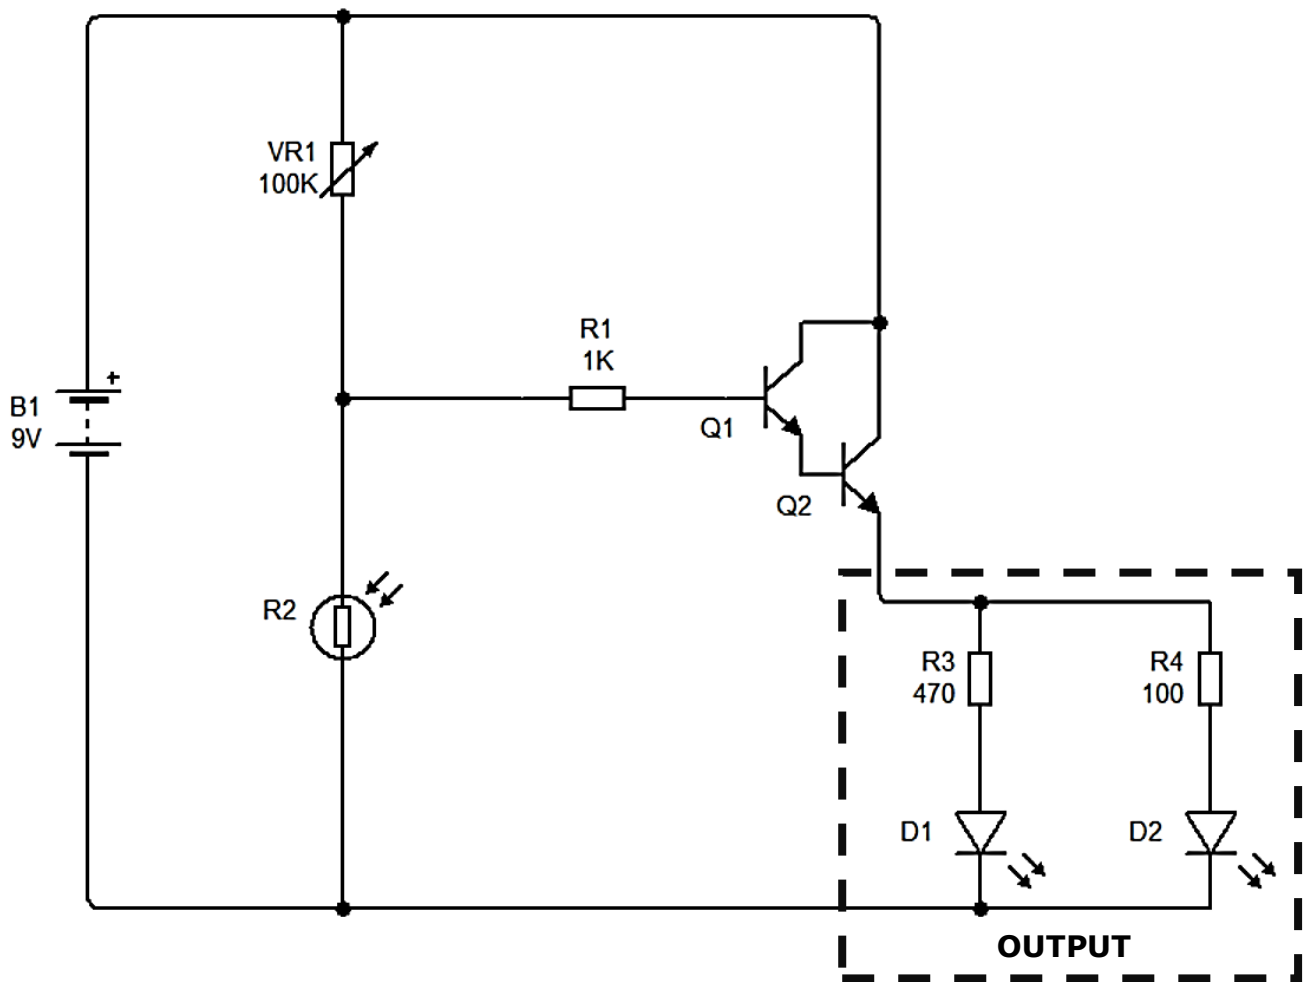

Figure 6
18. A set of different LEDs were fitted to a display to attract more customers. Figure 6 shows a circuit to operate the LEDs when customers pass in front of the display.
- a. The output subsystem is marked on the circuit diagram with a dashed square. On Figure 6 highlight and label the following:
- (2)
- b. Give the name of the configuration of components Q1 and Q2 on Figure 6 and suggest a reason why this configuration was used in the system.
- ii. Suggest which type of switch would be more suitable to be added as a power switch for the circuit shown in Figure 6 and give a reason for your answer.
- d. The circuit shown in Figure 6 makes use of different types of LEDs.
ii. Using calculations, find out which LED in Figure 6 consumes more power.
19. The system shown in Figure 6 was redesigned to be controlled by microcontrollers.